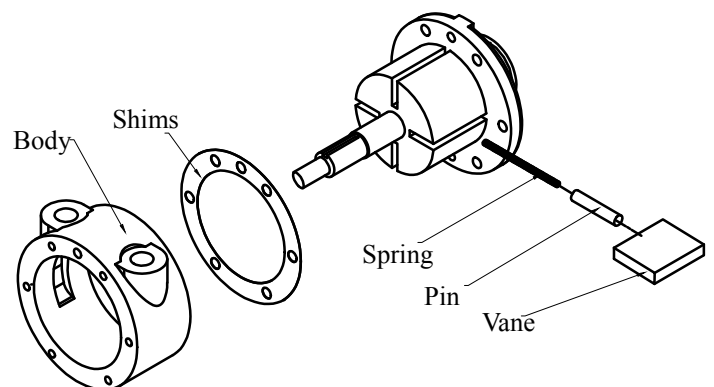

Fig. 2
- Remove the body and vanes. Refer to fig. 2.